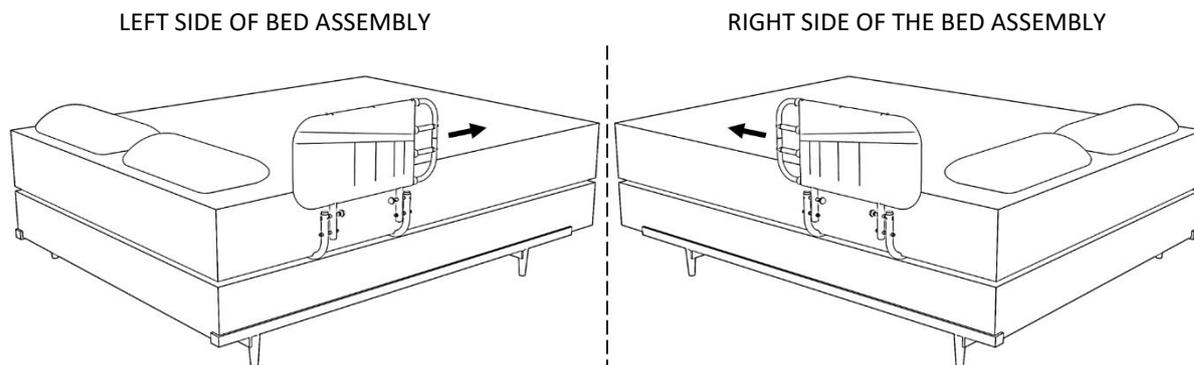

Figure 3
4.2 Determine on which side of the bed the product should be installed as shown in FIGURE 3. The adjustable length side of the bed side rail should always face the foot end of the bed.
Using the tools provided (H and J), attach A and B with the fasteners (E, F and G) as shown in FIGURE 3.